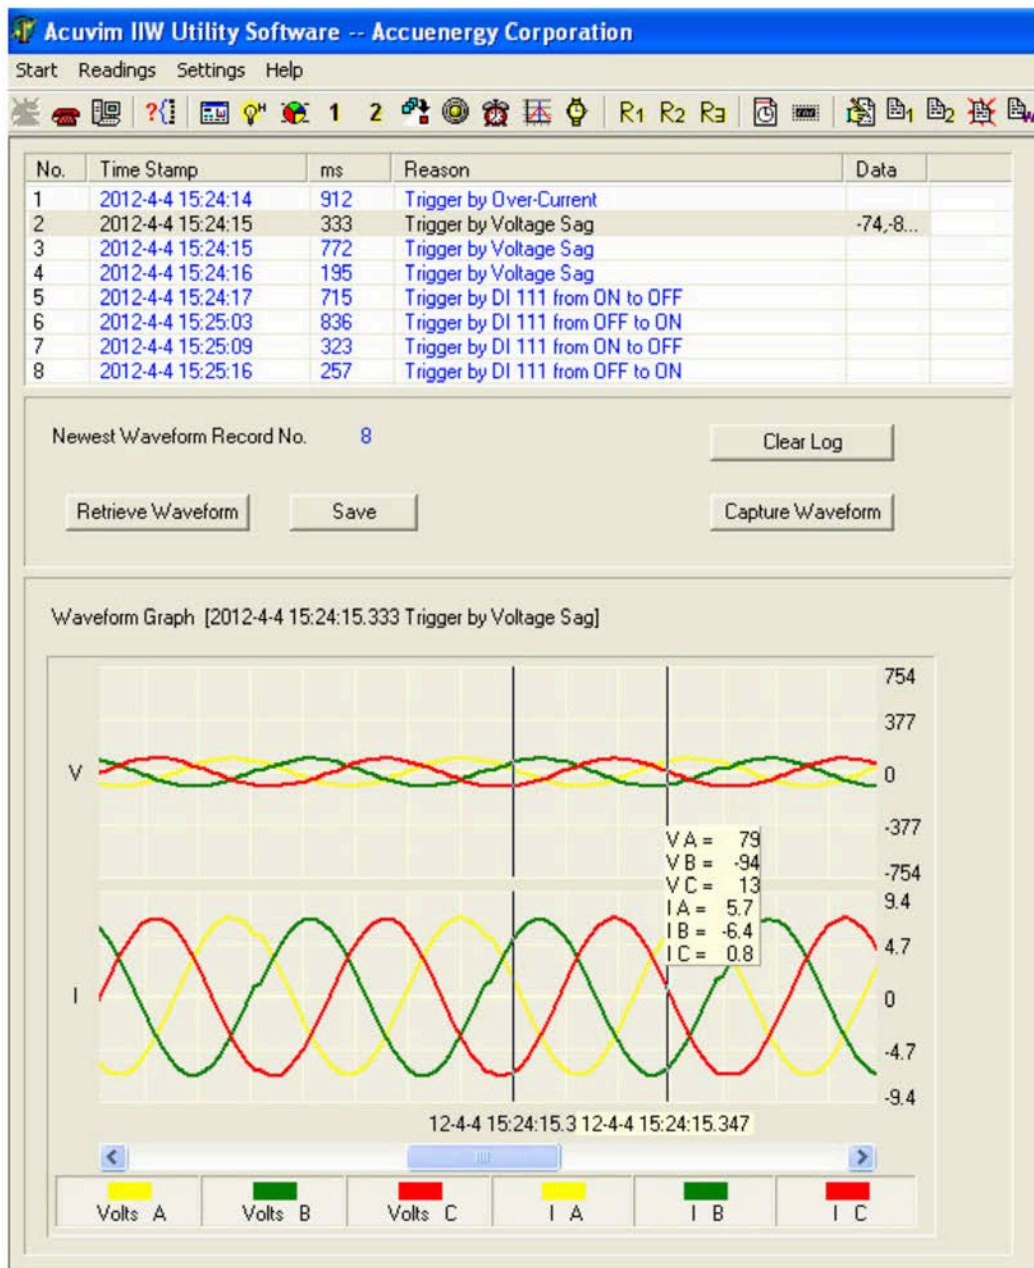

Fig. 4-14
3)100mV(Rope-CT):Real Value(Unit: A) = Waveform Value/K (firmware above 3.21,K=20291.1; firmware 3.20, K=22068.8,other: K = 15869.87); 4)mA CT:Real Value (Unit: A) = Waveform Value/K (80mA CT:K=7414.289; 100mA:K=9267.440; 200mA:K=18514.68 );The voltage and current value obtained from the waveform are the PT or CT secondary side value. The waveform capture retrieve page is shown in Fig 4-14.